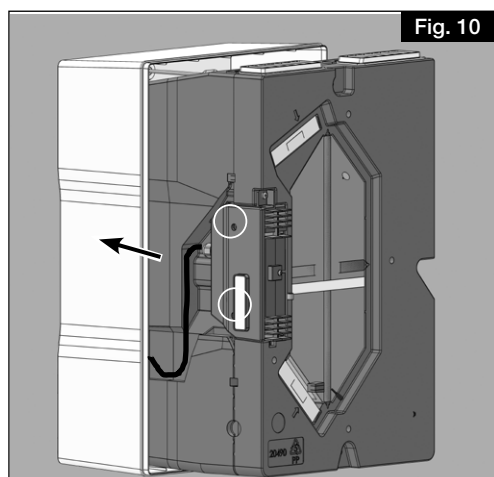

Fig. 10
5. Close the terminal box cover and secure it with the two screws. Push the unit fully into place (see Fig. 10).